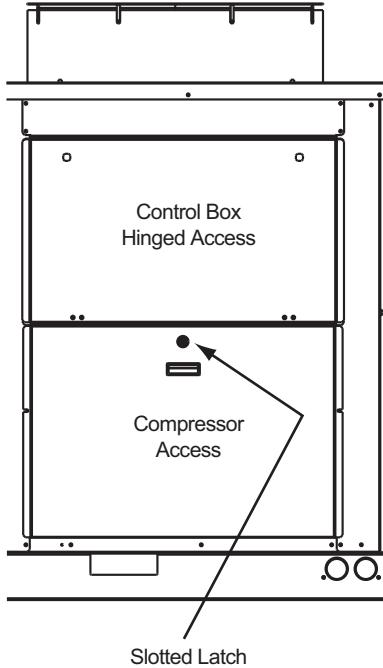

Fig. 1 — Compressor Access Panel with One Latch
- a. The 38RCS,RCD025-030, and 30RC010-030 units have one compressor access panel with one latch at the top of the panel. See Fig. 1.